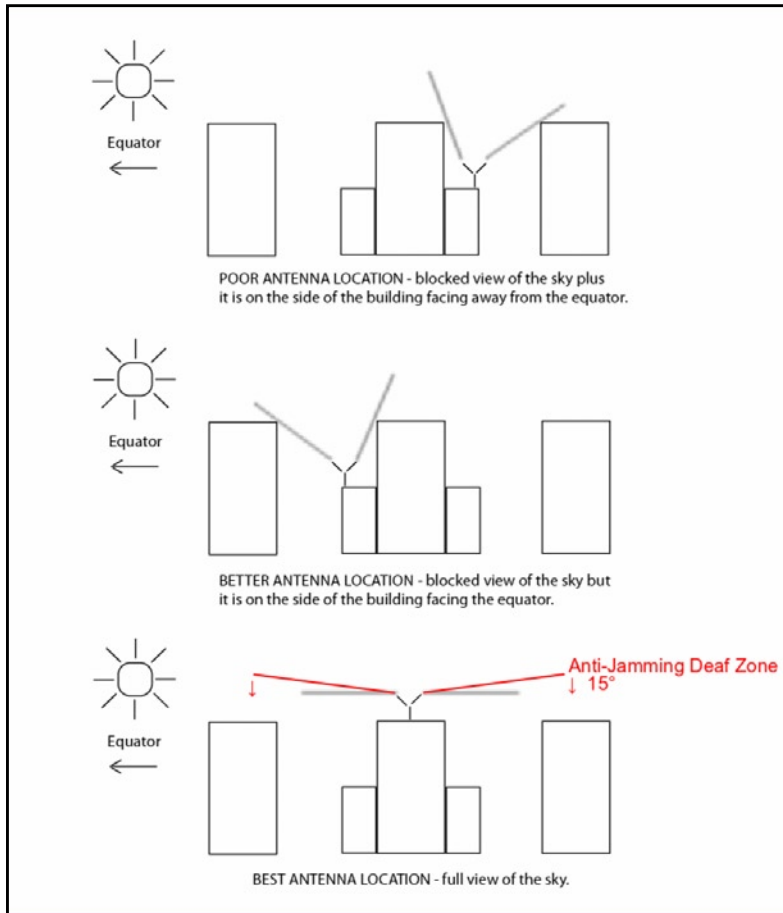

Figure 1. Unobstructed View-of-the-Sky is Best
1. Make sure no obstructions: Your antenna works best with an unobstructed and clear view-of-the-sky (see Figure 1). Are there high-rise buildings partially blocking the view? Anything blocking the view is a possible problem. Note: For the Anti-Jam Antenna an unobstructed view of the sky is most important because the deaf zone already blocks 15°. For this reason, do not use the window-mount.